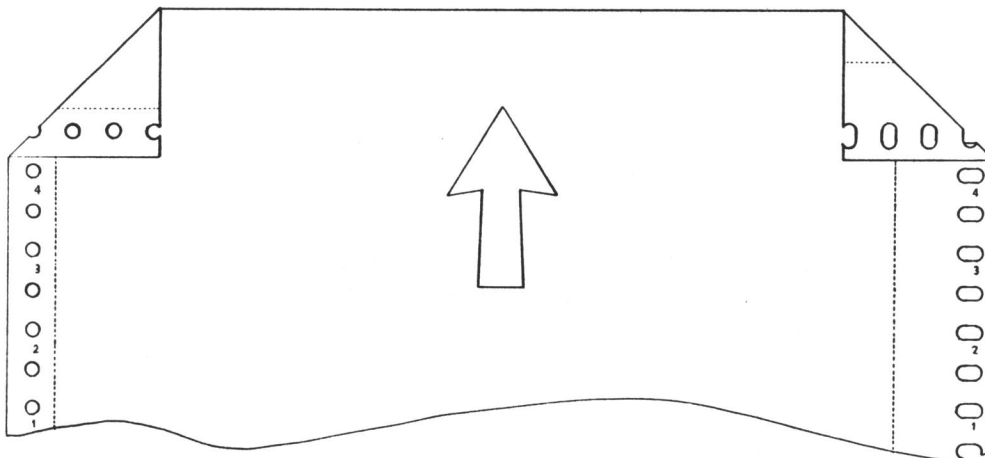

Figure 1-14
4. Fold the corners of the media as shown in Figure 1-14.